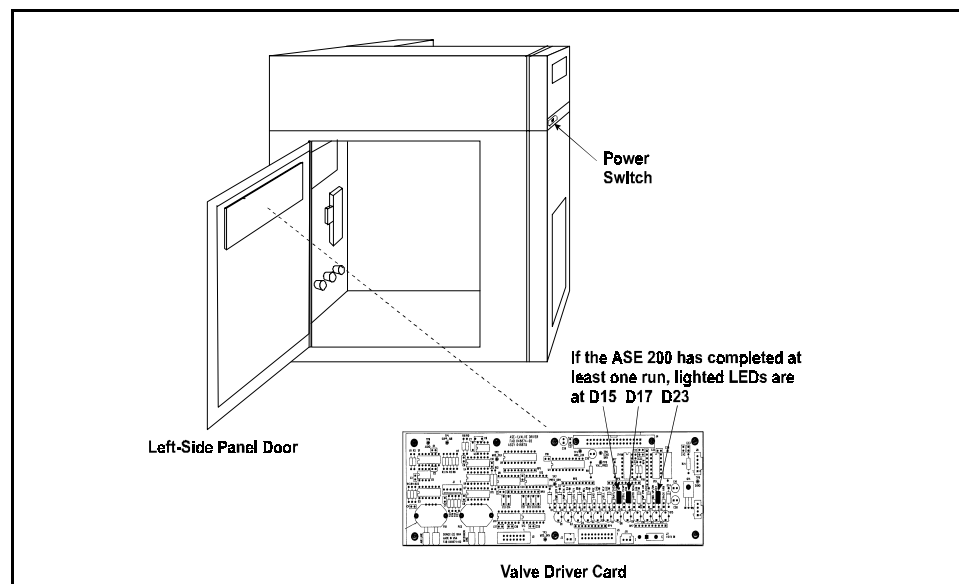

Figure 4-1. Valve Driver Card LEDs
2. Check the LEDs on the valve driver card (the PC board at the top of the left-side panel door). If the ASE 200 completed at least one run and is now idle, the LEDs at positions D15, D17, and D23 should be lighted (see Figure 4-1).